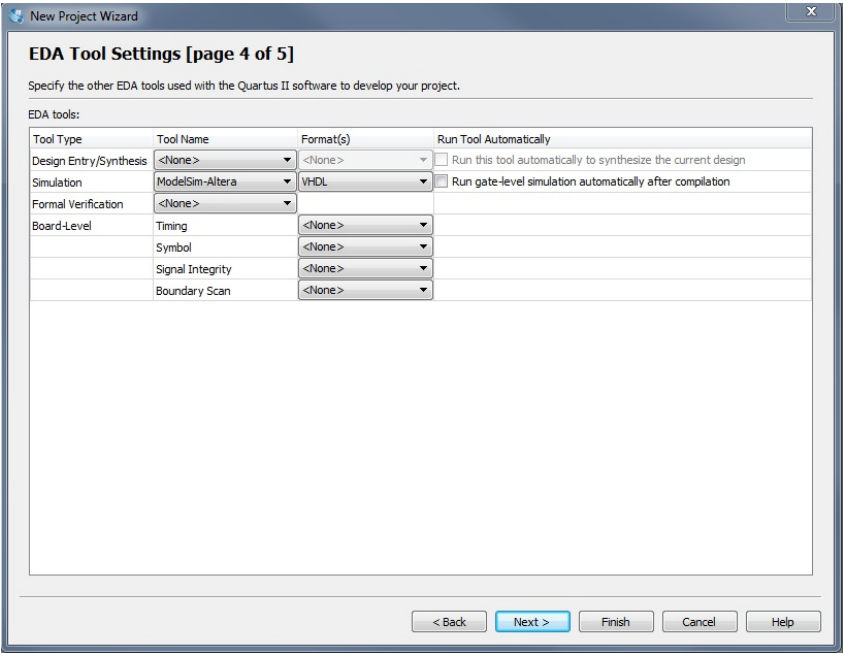

Figure 4:
6. For page 4 of 5 you should select Modelsim-Altera under Simulation Tool name and VHDL under Simulation format. Leave the other options as illustrated in Figure 4 and press Next.